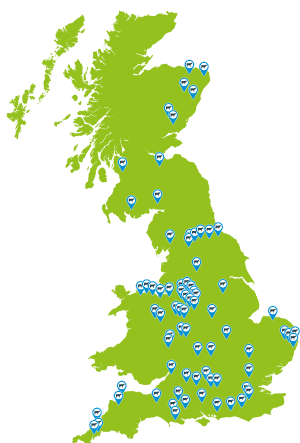

Figure 21. Location of study farms
- Visited 102 dairy farms in England, Scotland and Wales between March and August 2013 (Figure 21)